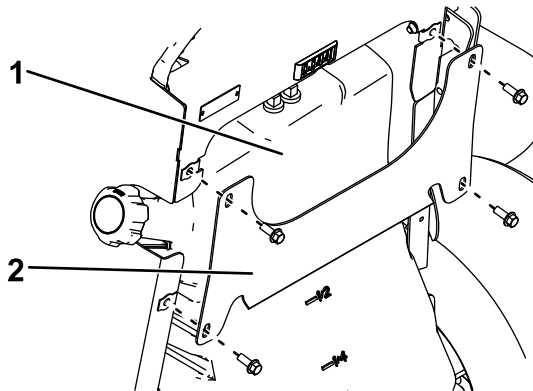

Figure 35
3. Remove the cross bracket (Figure 35).